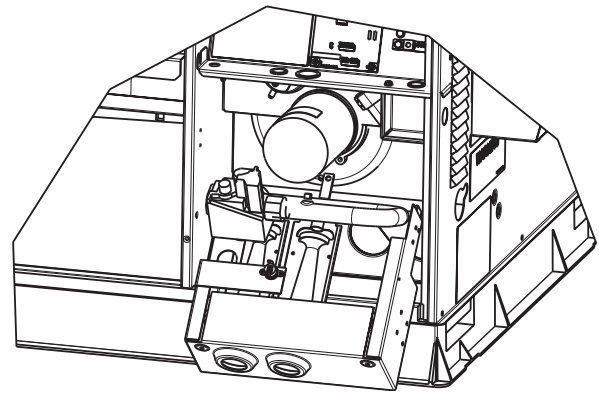

Fig. 24 - Burner Rack Removed
3. Slide the assembly out of the unit. (See Fig. 24). Clean the blower wheel. If additional cleaning is required, continue with Steps 4 and 5.